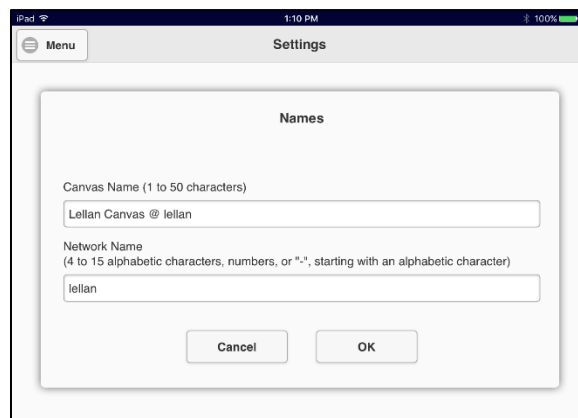

Figure 5-20: The Names Settings Page
- This will bring up the *Names Settings* Page (Figure 5-20).